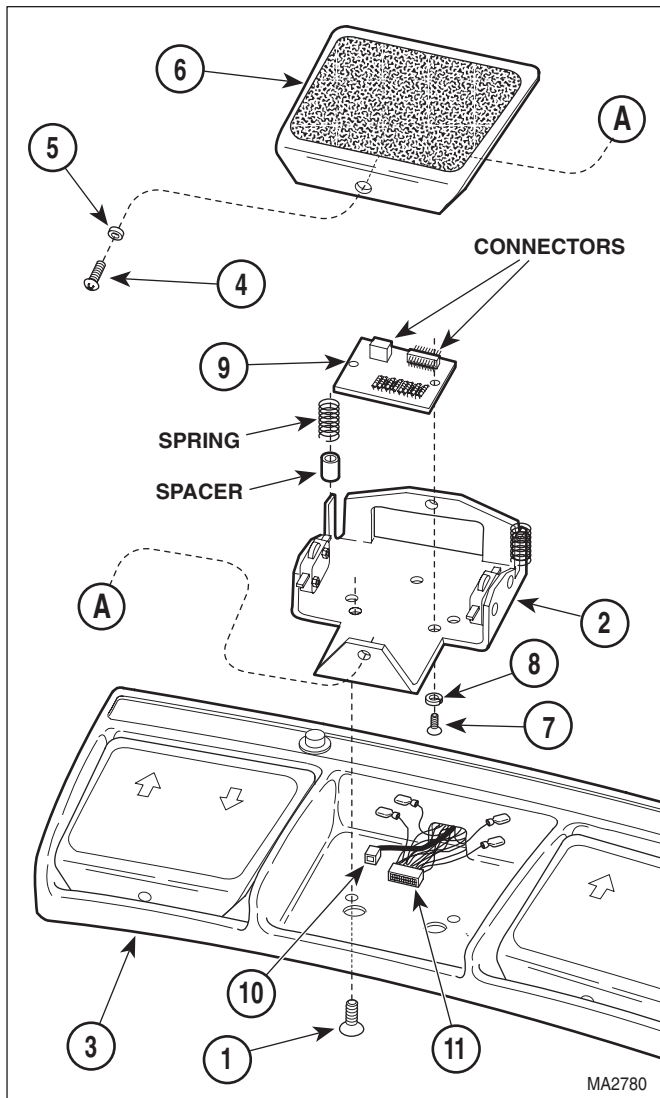

Figure 4-34. Foot Control Interface Board Removal / Installation
- (2) Remove two screws (1, Figure 4-34) and partially separate foot switch bracket (2) from foot control casting (3).
- (3) Remove screw (4), spacer (5), and pedal (6) from foot switch bracket (2).
- (4) Remove two screws (7), lockwashers (8), and partially separate interface board (9) from foot switch bracket (2).
- (5) Disconnect modular cord (10) and wire harness (11) from connectors of interface board (9).